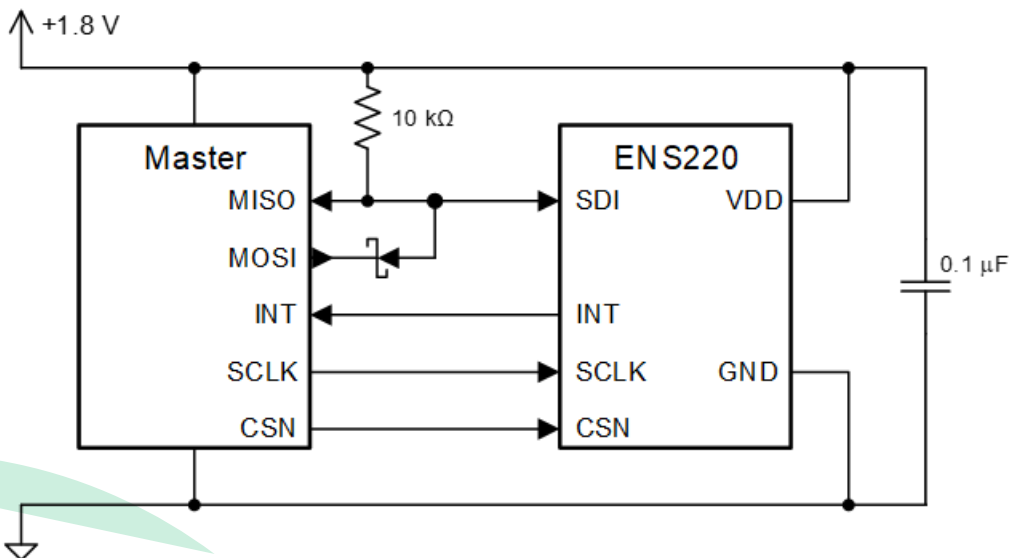

Figure 9. Use of a Schottky diode for interfacing a SPI 4 wire microcontroller to the ENS220 in SPI 3 wire mode.
- have a passive component that allows the MOSI and MISO line to have separate voltages. This can be a resistor (as in Figure 8) or a Schottky diode (as in Figure 9) between MOSI and MISO.
Figure 8 and Figure 9 give examples of how to use passive components to interface the ENS220 in SPI 3 wire mode to a master that works in SPI 4 wire. Please take note that the master is powered with 1.8 V in these examples.